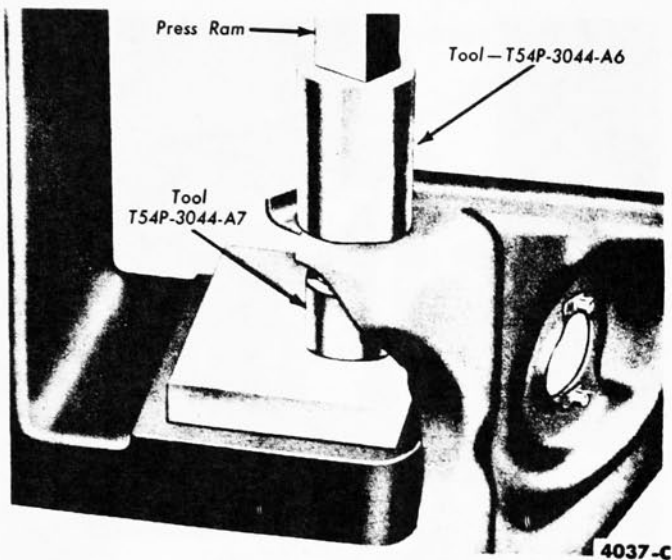

FIG. 11—Lower Arm Bushing Installation
2. Press new bushings into the arm with the tools shown in Fig. 11. **The bushing flanges must be at the inner side of the lower arm.**